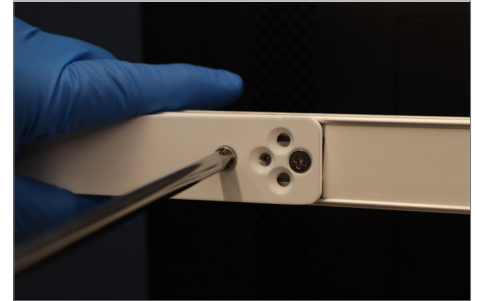

Figure 13
5. Unscrew the 2x **#8 FLAT HEAD SCREWS (H-FHUMS-832-38)** using #3 Philip's Head screwdriver (**Figure 13**).